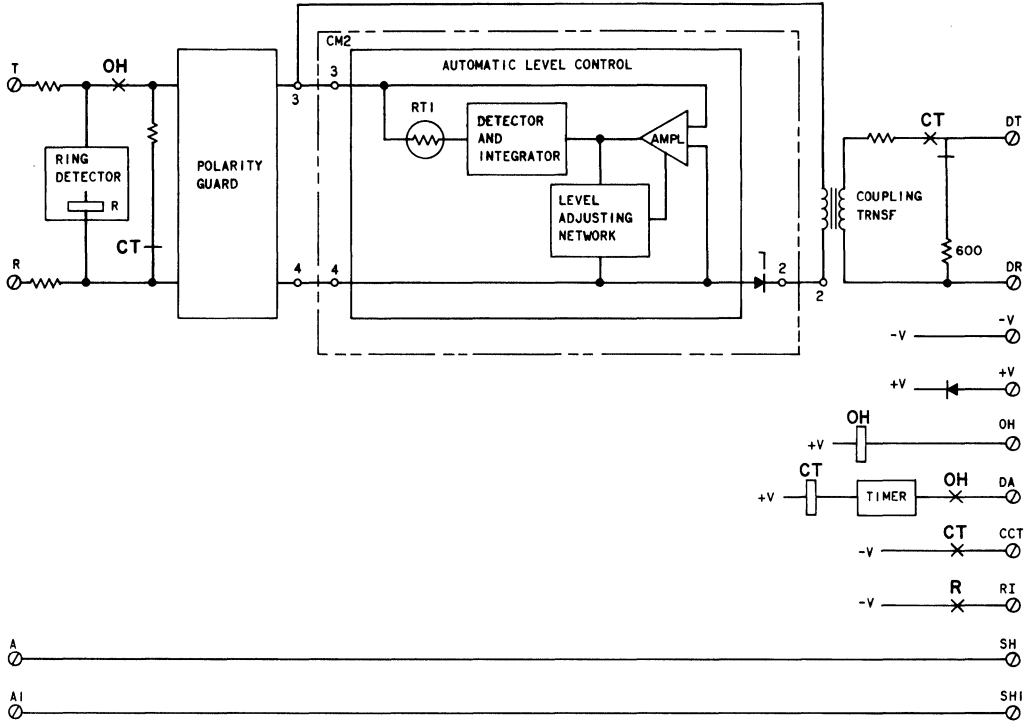

Fig. 3—1001D Data Coupler—Data Mode
2.09 Coupler Transmission Path: The coupler transmission path consists primarily of a coupling transformer, an ALC circuit, and a polarity guard (Fig. 3). The transformer terminates the telephone loop and provides a 2-way protective function (ie, hazardous voltages, surge protection, and longitudinal isolation). The ALC circuit prevents the customer signal level from exceeding the prescribed maximum limit. The polarity guard maintains the polarity of the line current and voltage required by the ALC circuit.
2.12 Ring Detection: The ring detector (Fig. 3) is activated when the 20-Hz ringing signal is present on the line, indicating an incoming call. The R relay, part of the ring detector, operates and releases in response to each half cycle of ringing current. Contact closures of the R relay are used to close the RI interface lead to -V. **The contact closures must be integrated by the customer data terminal to protect against false operation due to surges or to dial pulses. At least two cycles of 20-Hz ringing signal should be detected before reacting to the signal.**